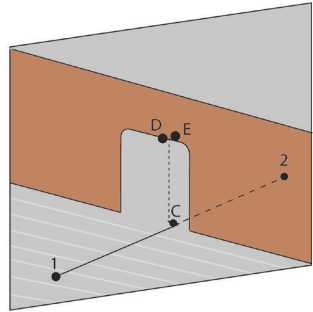

Figure 18
6. If the distance D to E $< 1/16''$ for a 10' doorway, your plumb accuracy is within specification. (Figure 18)